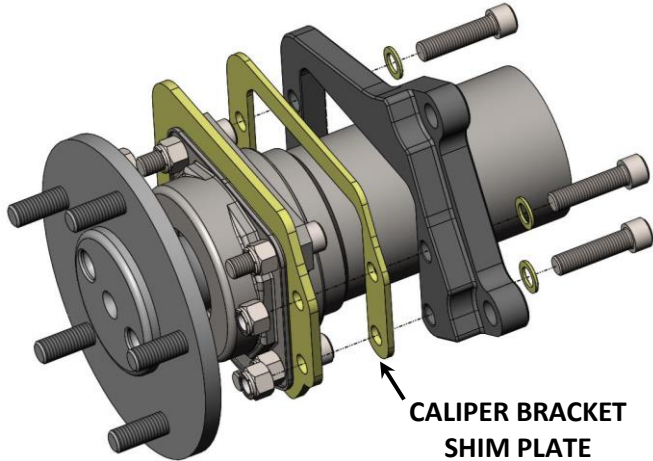
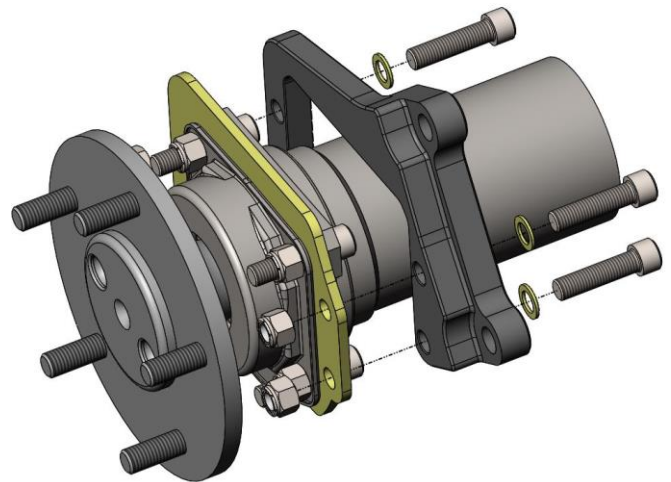

Figure 5a – Caliper Mounting Bracket Installation (2.375" Standoff)
Figure 5b – Caliper Mounting Bracket Installation (2.500" Standoff)
7. Install the Aluminum Caliper Mounting Bracket at this time. If in Step 6 you determined standoff was 2.375", install the Caliper Bracket Shim Plate in between the Caliper Bracket Mounting Flange and the Aluminum Caliper Mounting Bracket as seen in Figure 5a below. If in Step 6 you determined the standoff of the axle to be 2.500", a Caliper Bracket Shim Plate is not required. Mount the Aluminum Caliper Mounting Bracket directly to the Caliper Bracket Mounting Flange as shown below in Figure 5b. Use the supplied 3/8"-24 x 1.500" Socket Head Cap Screws, 3/8" AN Flat Washers, and 3/8"-24 Nylon Lock Nuts and attach the Aluminum Caliper Bracket with caliper towards the rear of the car. Torque to 40 lb/ft.